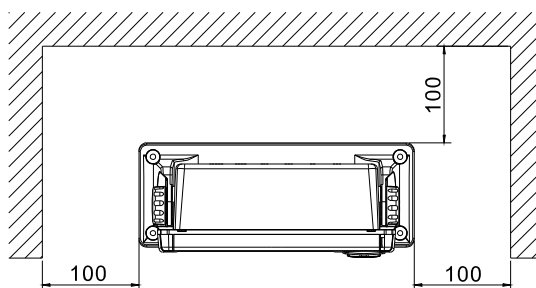

Figure 4.2 Servicing Access space required
3. Place the mounting bracket to the place where the display unit is to be installed, and fix the bracket with four (4) M5 tapping screws. Provide enough space for servicing. (Refer to Figure 4.2)
4. Reset the display unit on to the bracket and fix using the two knobs that were removed in step (1).